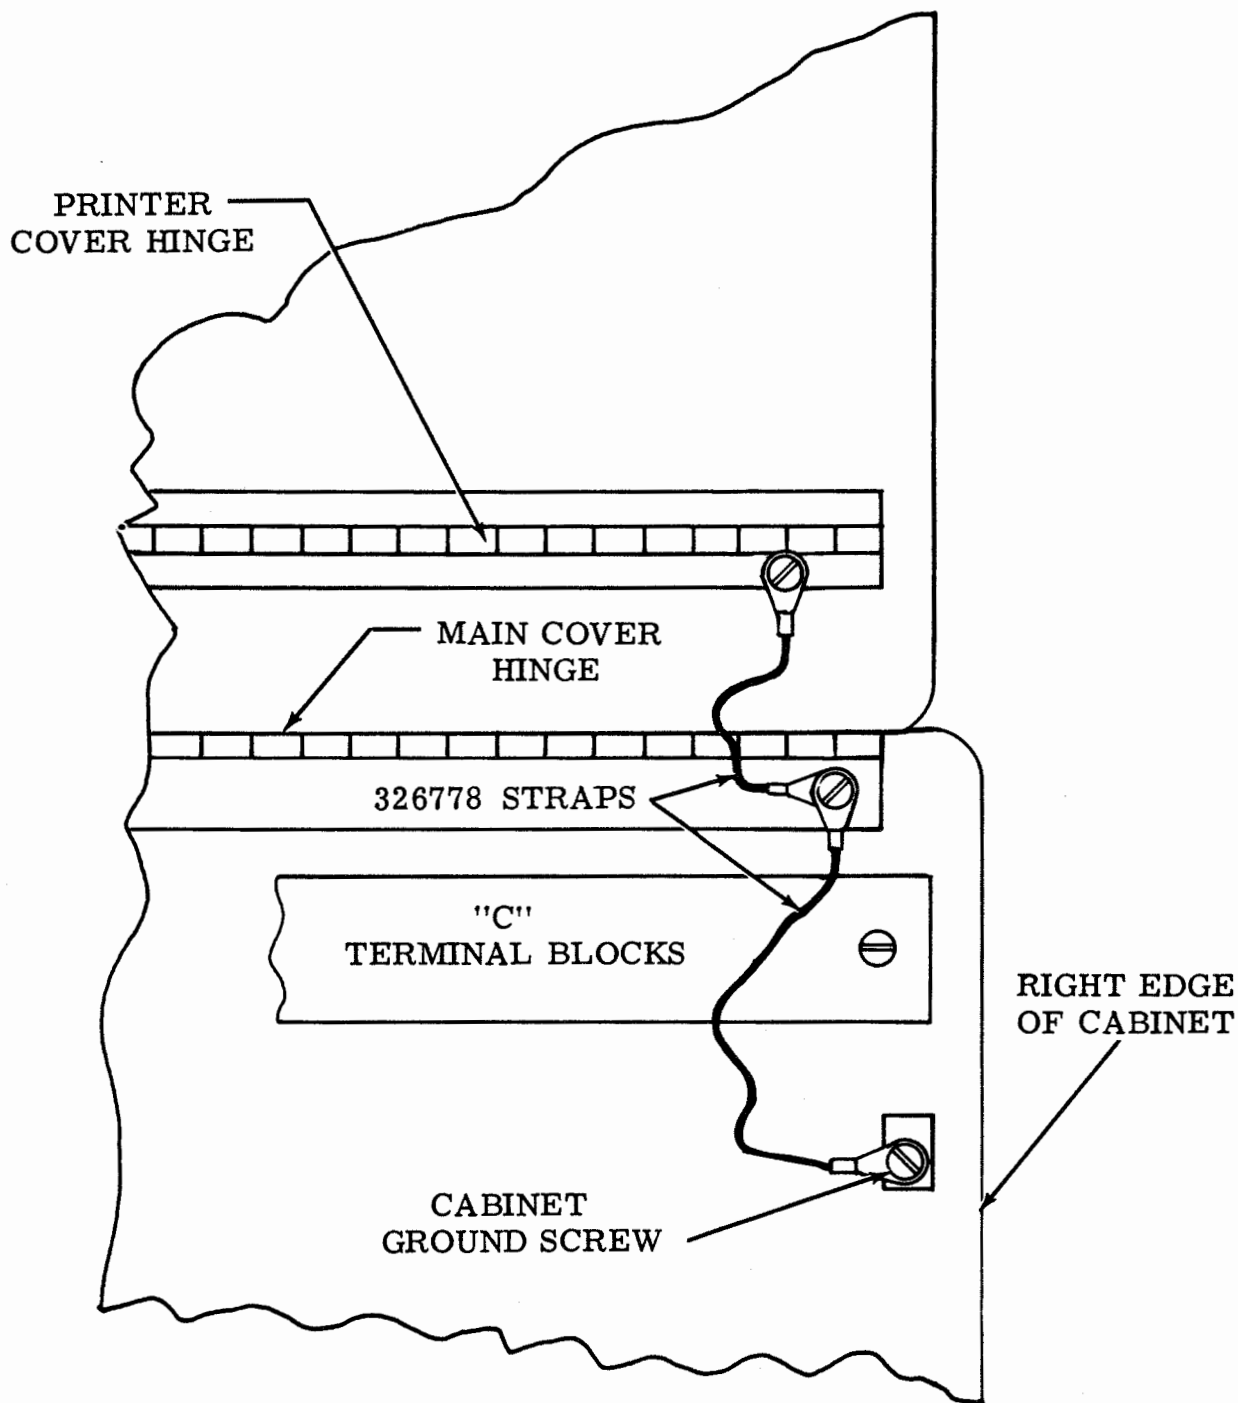

Figure 12 - Grounding for Cabinet Cover
- (b) Attach the 326778 straps according to Figure 12.